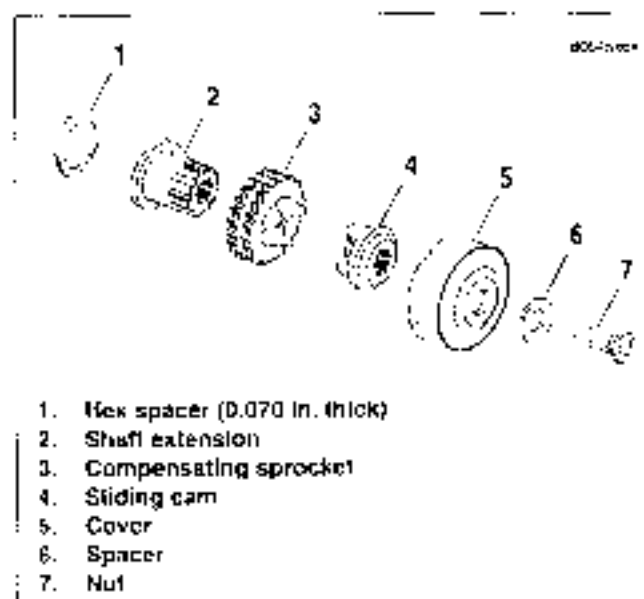

Figure 6-11. Compensating Sprocket
8. See Figure 6-11. Remove nut (7), spacer (6), sprocket cover (5) and sliding cam (4).
3. See Figure 6-11. Slide compensating sprocket (3) and sprocket cover (5) over shaft extension (2).
4. Clean and prime threads of nut (7). Apply two drops of **LOCTITE (THREAD LOCKER 262 red)** to the threads. Install spacer (6) and nut hand tight.